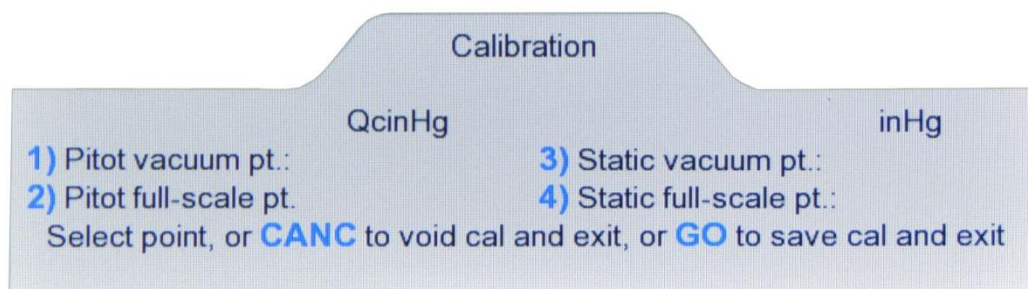

Figure 6.3 : Calibration (Main)
6. Enter '1.600' followed by **ENTER** on the keypad. The highlighted field will be replaced by '1.600'. Press **CLR** to return to the point-selection screen (Figure 6.3). You should see '1.600' on this screen, as the Static vacuum point. This indicates to the 6250 that the absolute pressure on the Static output is currently exactly 1.600 inHg.
9. Enter '0.000' (or simply 0) followed by **ENTER** on the keypad. The highlighted field will be replaced by '0.000'. Press **CLR** to return to the point-selection screen (Figure 6.3). You should see '0.000' on this screen, as the Pitot vacuum point. This indicates to the 6250 that the differential pressure on the Pitot output is currently exactly 0.000 inHg.
12. Enter '15.000' (or simply 15) followed by **ENTER** on the keypad. The highlighted field will be replaced by '15.000'. Press **CLR** to return to the point-selection screen (Figure 6.3). You should see '15.000' on this screen, as the Pitot full-scale point. This indicates to the 6250 that the differential pressure on the Pitot output is currently exactly 15.000 inHg.
15. Enter '32.000' (or simply 32) followed by **ENTER** on the keypad. The highlighted field will be replaced by '32.000'. Press **CLR** to return to the point-selection screen (Figure 6.3). You should see '32.000' on this screen, as the Static full-scale point. This indicates to the 6250 that the absolute pressure on the Static output is currently exactly 32.000 inHg.